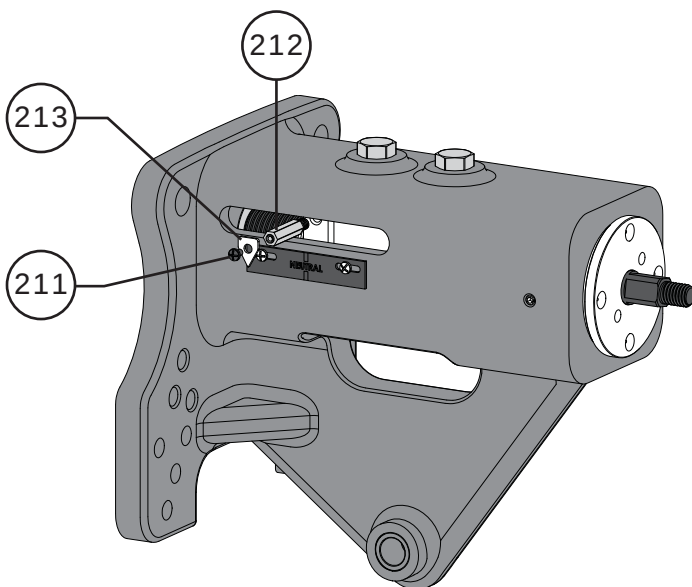

Figure 66 Pointer Installation
- 11** Using the machine screws (Key 211), loosely install the indicator plate on to the handwheel body (Key 200). Refer to Figure 66.